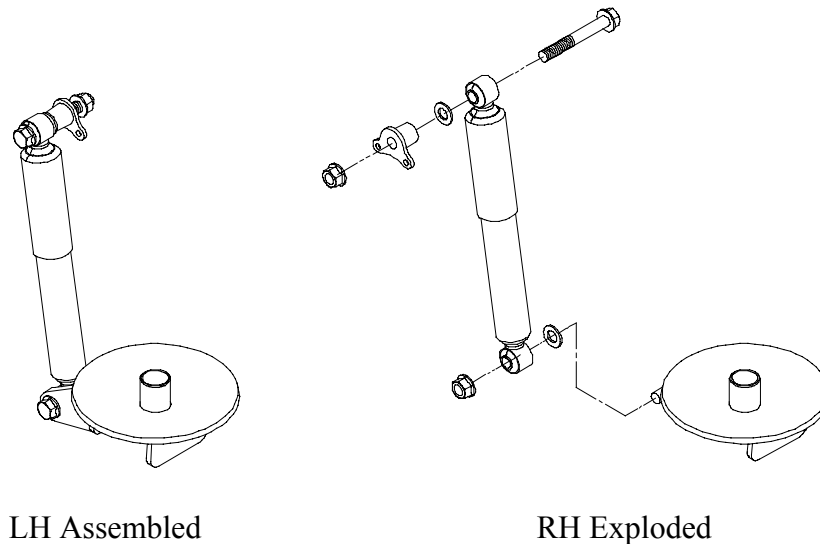

FIGURE 6
Shock absorbers are provided on the 1000 Series Suspension as an option to provide specific ride properties for different road conditions. The 1000 Series suspension may be fitted with either forward-mounted or rear mounted shock absorbers. See Fig. 6. The replacement procedure is essentially the same for both types of shock absorber mounting.
STEP 3 – Carefully clean and relubricate the bottom shock absorber threads. Place the bottom eye of the replacement shock absorber onto the shock bracket. Refer to Fig.6 or Fig. 7. Install and tighten NEW $\frac{3}{4}$ " NC fasteners and hardened washers.